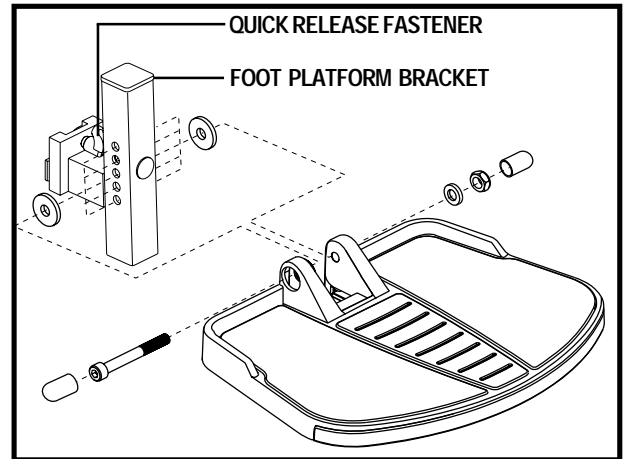

Figure 26. Foot Platform Height Adjustment
1. Remove the quick release fastener from the foot platform bracket. See figure 26.